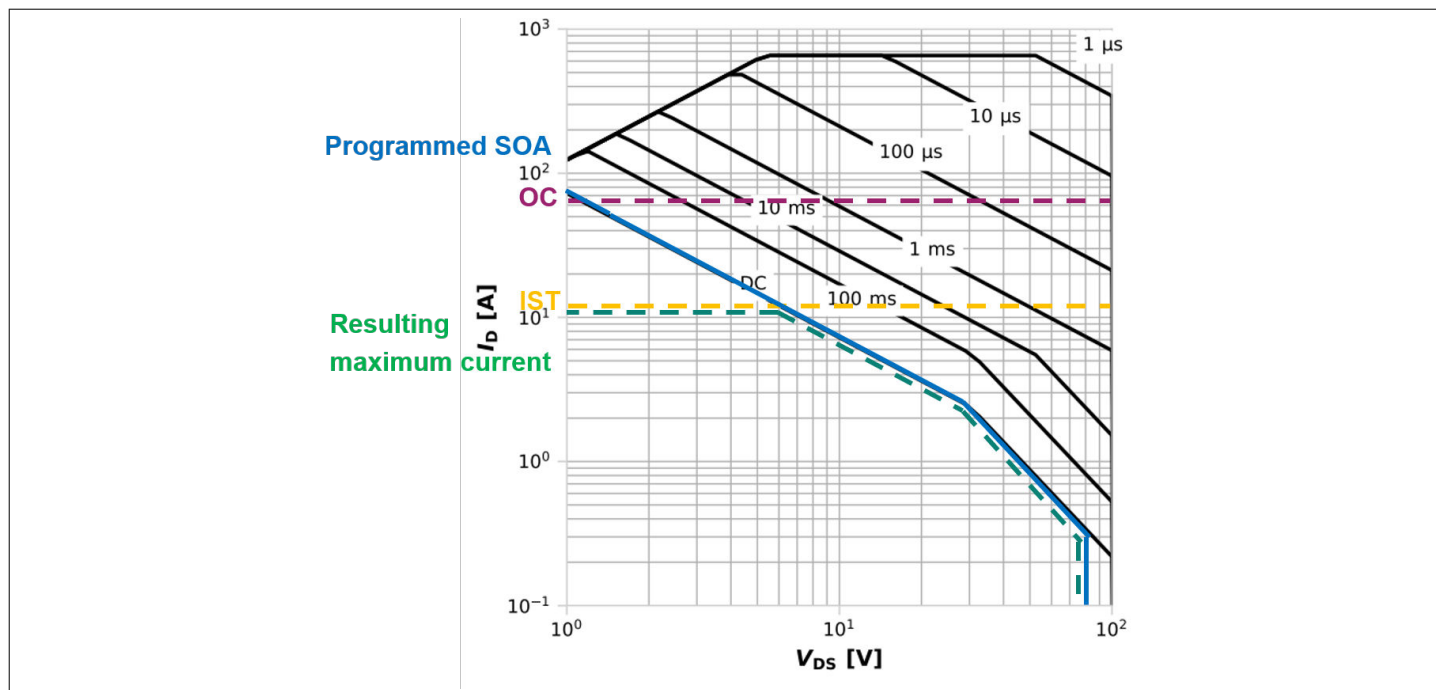

Figure 6 Safe operating area
- The XDP712 starts charging the output capacitor by regulating the current through the FET according to the maximum allowed in the SOA. From Figure 6, the DC line allows an $I_{SOA} \cong 0.5$ A at 48 V.